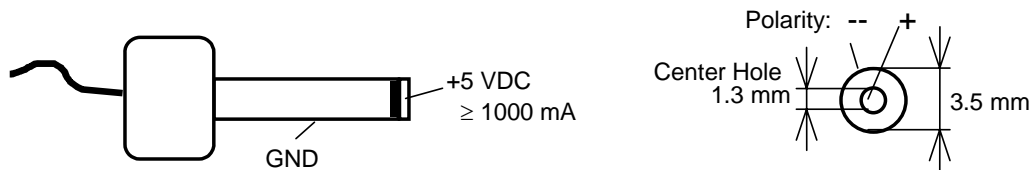

Figure 4: Power Connector
- Using the included 5VDC power adapter, connect the power socket on the board (X6) to a power supply (*refer to Figure 4 for the correct polarity*). The phyCORE module/Development Board combination requires a 5VDC@1.5A $\pm 3\%$ regulated supply.